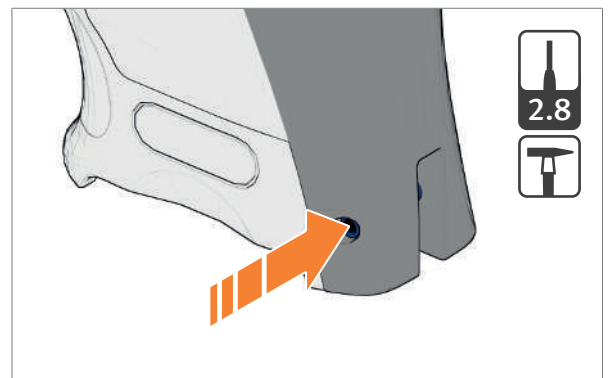

Fig. 26: Drive out clamping sleeve for back strap
1. Extract clamping sleeve for back strap using pin punch (Fig. 26).